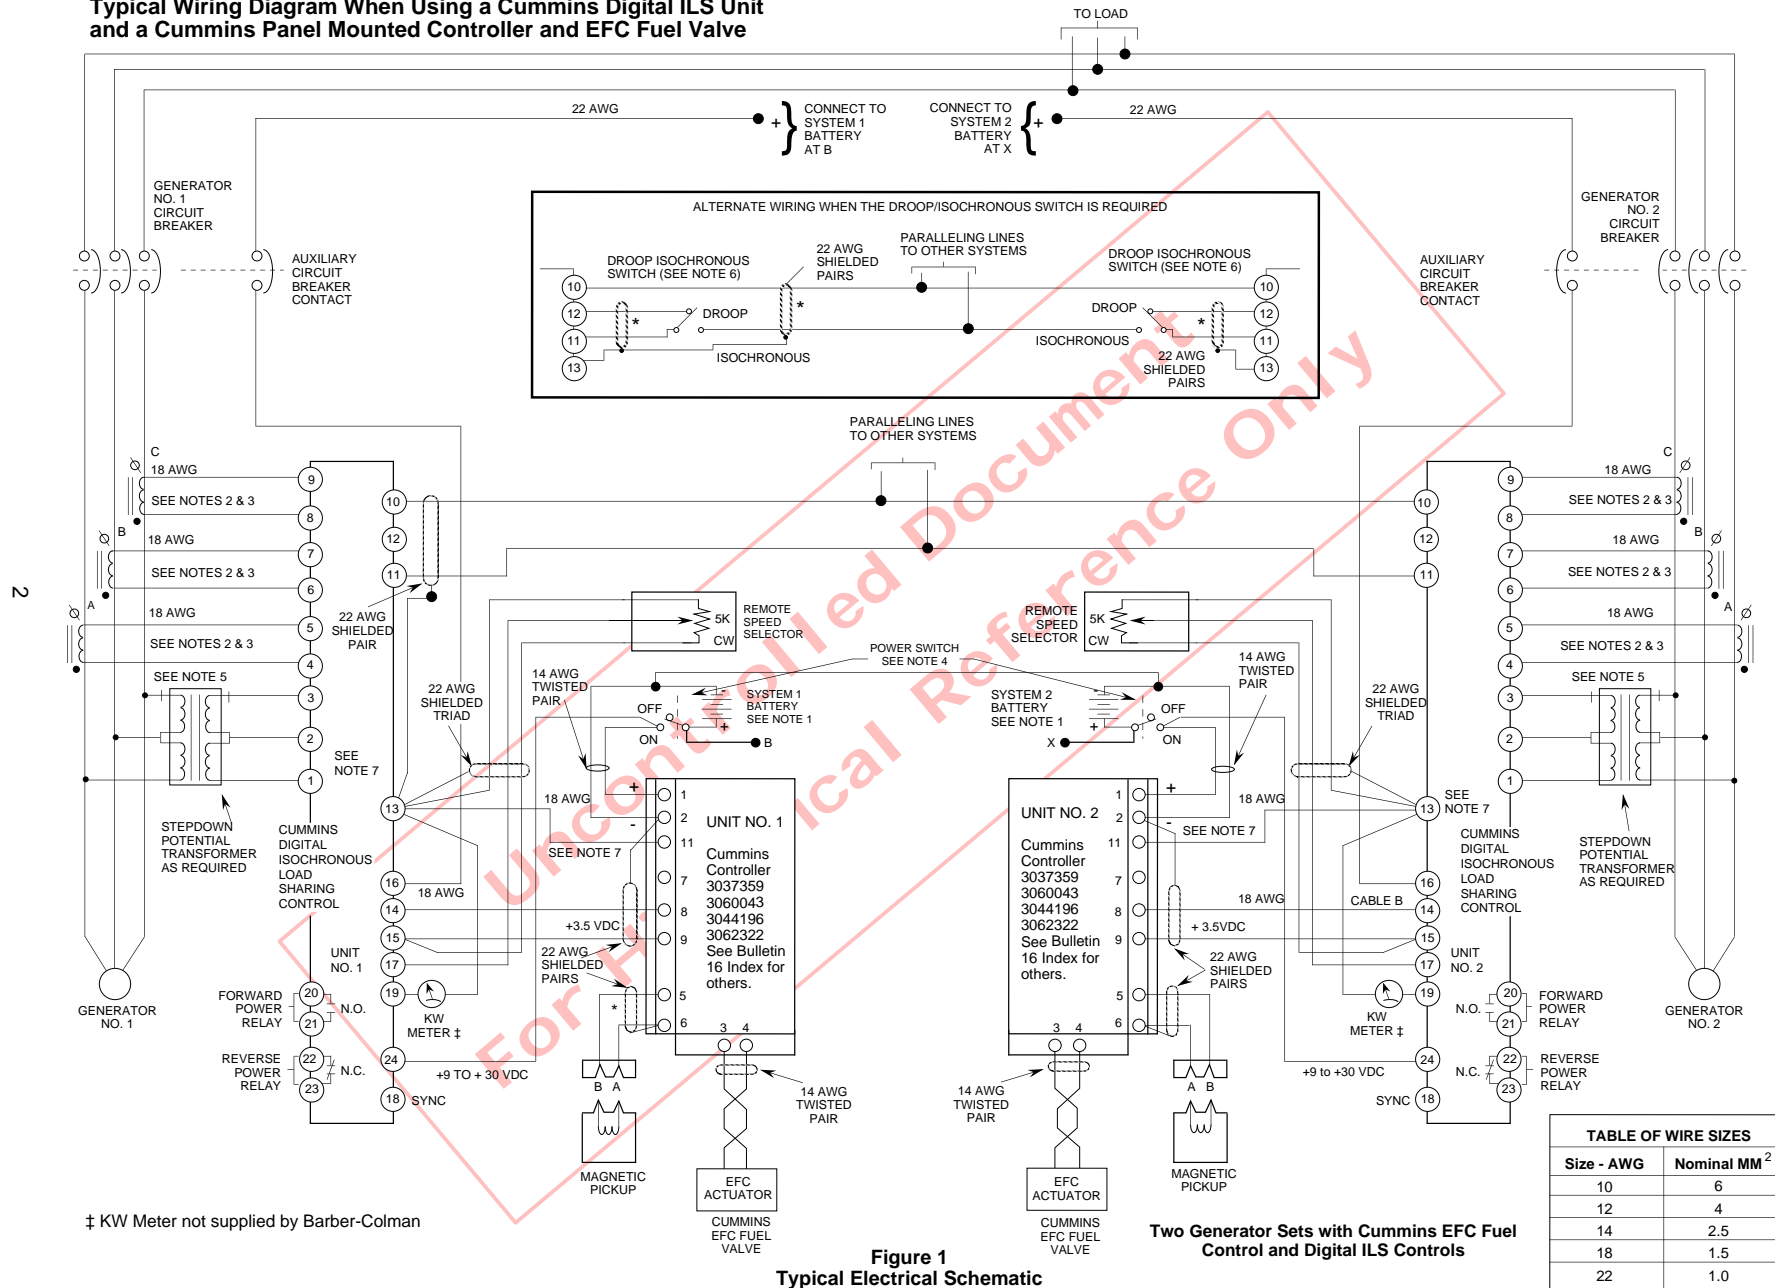

Figure 1
Figure 1 illustrates the wiring of two engine generator sets having Cummins governors and Digital Isochronous Load Sharing Controls. Additional engine generator sets can be paralleled by wiring them at the point designated, PARALLELING LINES TO OTHER SYSTEMS.
7. Shielded wires are to be terminated only on one end, as shown in the diagram, Figure 1.